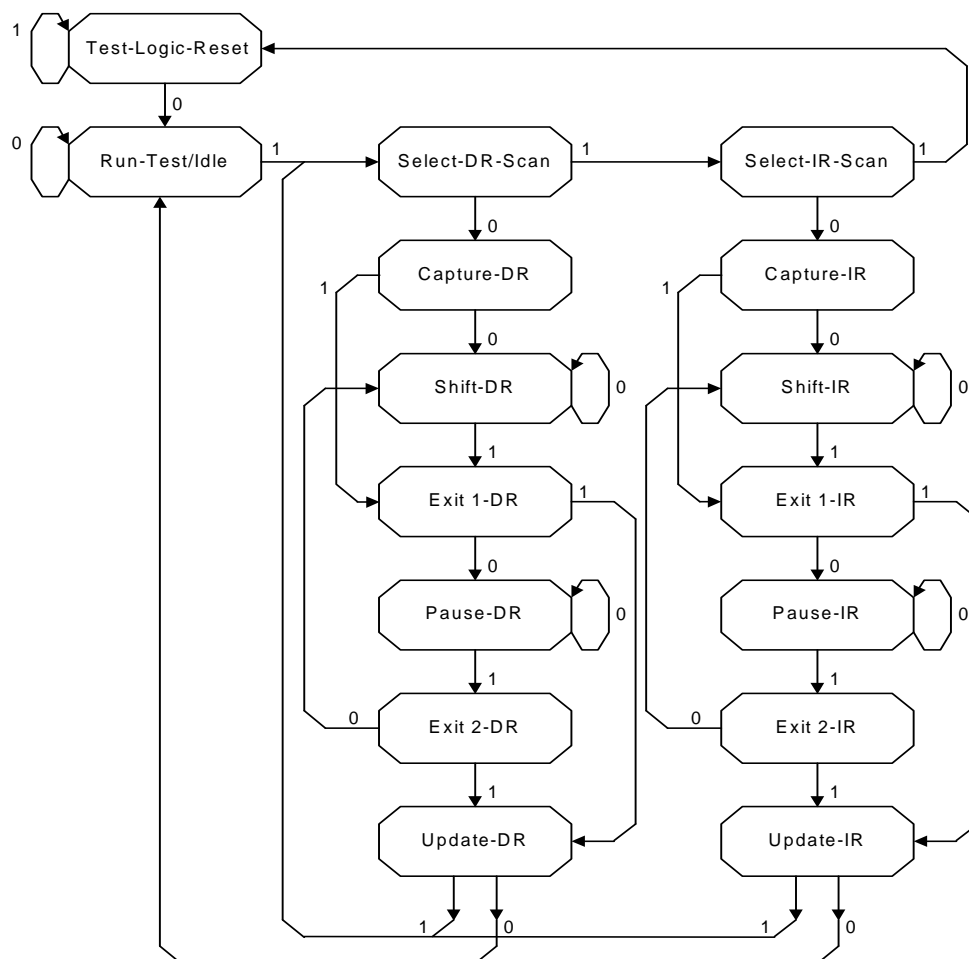

Figure 3.2.6 TAP Controller State Transition Diagram
The state transition diagram of the TAP controller is shown in Figure 3.2.6. Each arrow between states is labeled with a 1 or 0, indicating the logic value of TMS that must be set up before the rising edge of TCK to cause the transition.
The following paragraphs describe each of the controller states. The left column in Figure 3.2.6 is the data column, and the right column is the instruction column. The data column and instruction column reference the data register (DR) and the instruction register (IR), respectively.